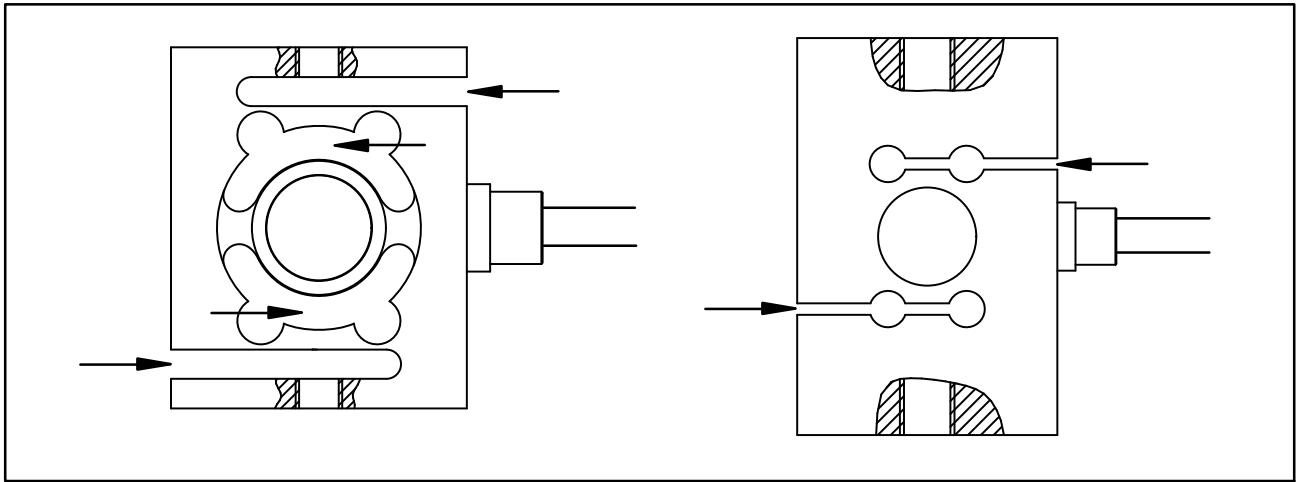

Fig. 4.1 Deposits at the marked areas must be avoided
*Measurement errors may be the result if dust or dirt is deposited inside the force transducer. The relevant areas are marked by arrows in Fig. 4.1.*